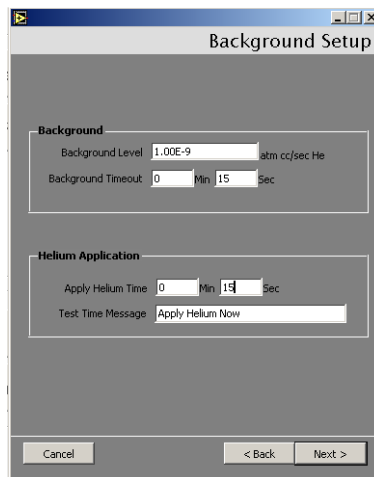

Figure 2-13 Background Setup
10. Click **Next** and Figure 2-13 appears.